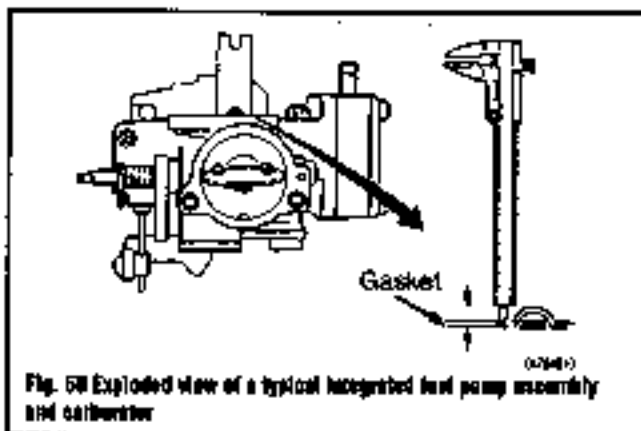

Fig. 54 Exploded view of a typical integrated fuel pump assembly and carburetor
See Figure 54
Fig. 54 To test the fuel pickup in the fuel tank, operate the squeeze bulb and observe fuel flowing from the disconnected line at the fuel pump. Discharge fuel into an approved container
• See Figures 54, 55 and 56